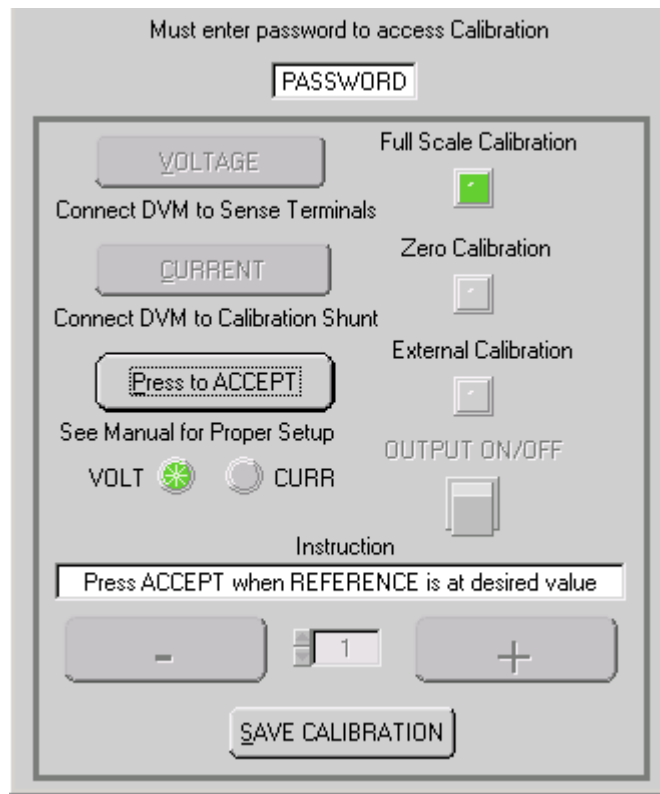

FIGURE 4-5. ANALOG REFERENCE CALIBRATION WINDOW
1. Click the **ANALOG REF** button on the Calibration Window; the Analog Reference Calibration Window (Figure 4-5) appears and the status display on the VXI main panel reads **INPV**. With the reference voltage adjusted to 10.000V, click the **PRESS TO ACCEPT** button to accept the value. When the calibration is saved, this analog voltage will be equivalent to full scale output voltage.